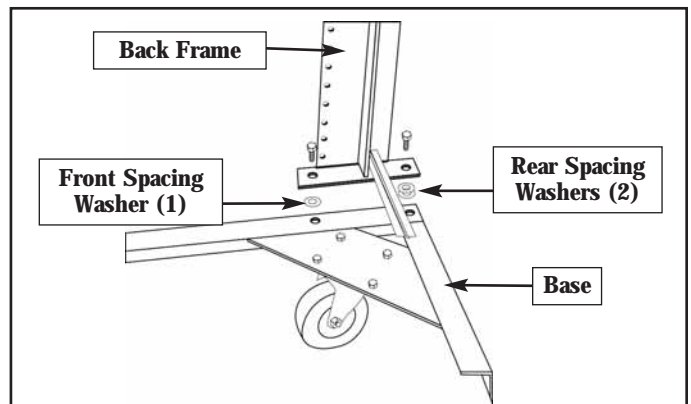

Figure 4. Installing the Back Frame.
- a. Tilt the back frame slightly toward the rear. Slide one (1) flat spacing washer between the bottom flange of the back frame and the top of the base and align the three holes (base, frame, and washer) (Figure 4).
- a. Tilt the back frame slightly toward the front. Slide two (2) flat spacing washers between the bottom flange of the back frame and the top of the base. Realign the four (4) holes (base, frame, and washers) (Figure 4).